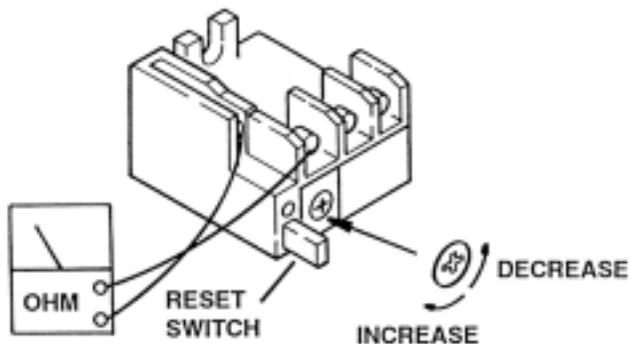

Figure 6-22. Thermal Relay
2. Use an ohmmeter to test for continuity between terminals 7 and 8 on the Thermal Relay. See figure 6-22.
4. The Thermal Relay should activate after 1-1/2 to 2 minutes of continuous pump operation. If necessary, adjust the thermal cut-out time by turning the adjustment screw clockwise to increase the time, counterclockwise to decrease the time. Refer to figure 6-22.